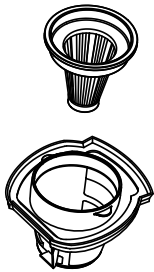

Fig.19
- Remove the filter from the filter basket. With a soft brush, brush accumulated debris from the side screens of the filter basket and from the filter cloth (Fig.19).